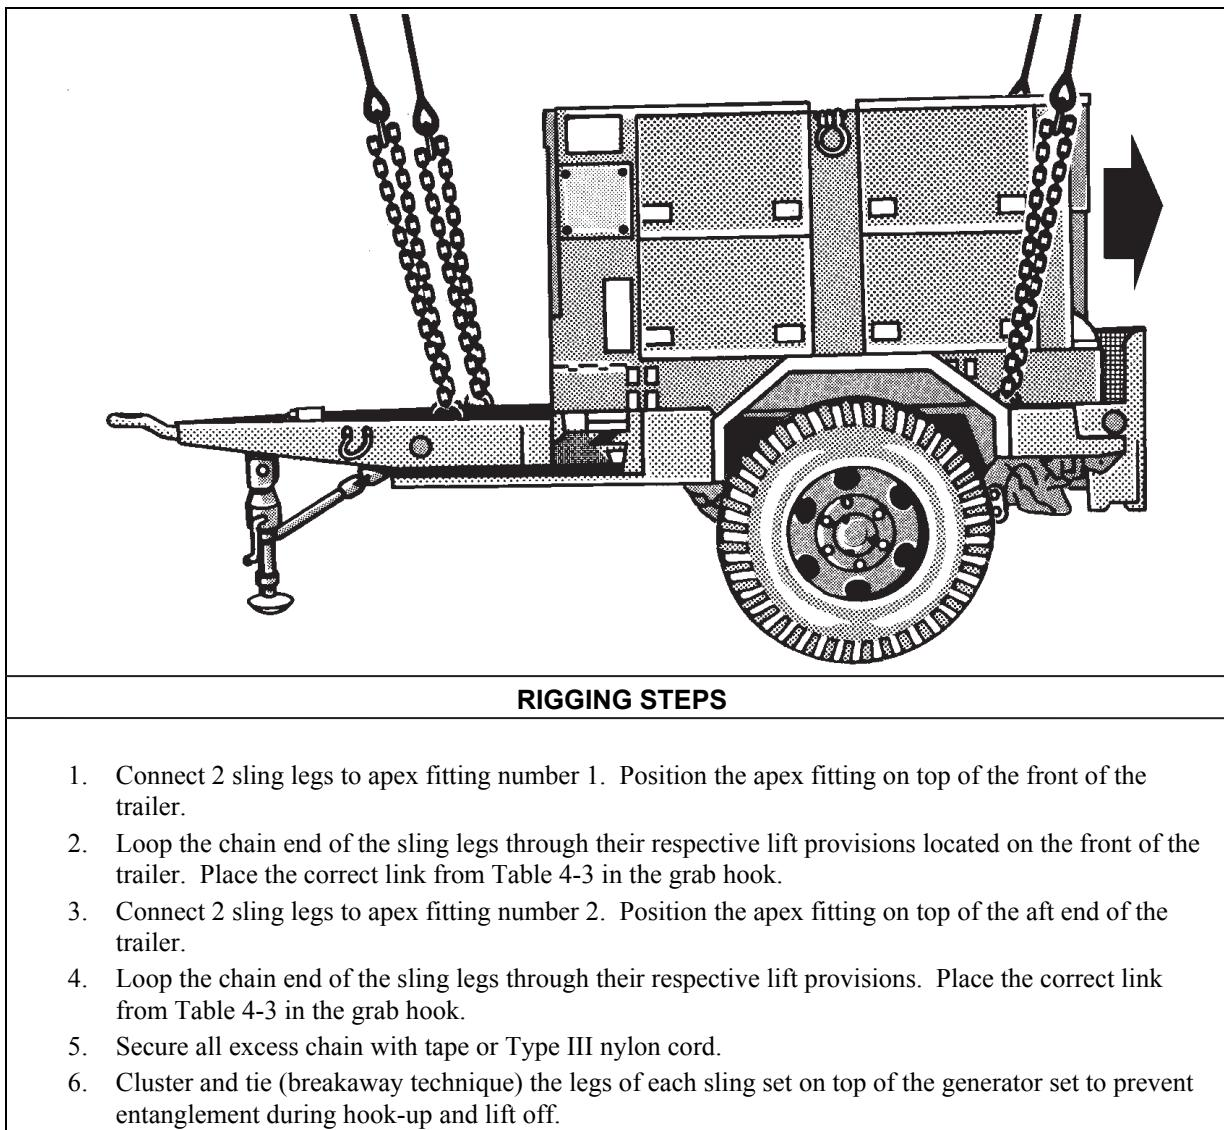

Figure 4-3. M200A1 Trailer-Mounted Power Units, Generators, and Power Plants
- **Rigging.** Rig the load according to the steps in Figure 4-3.